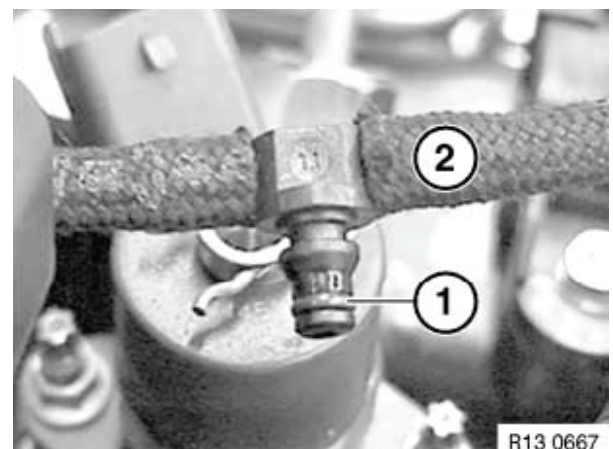

Figure 6-42
6. Inspect O-ring (**Figure 6-42, (1)**) on each fitting. If any O-ring is damaged, the entire return fuel line (**Figure 6-42, (2)**) must be replaced as an assembly.